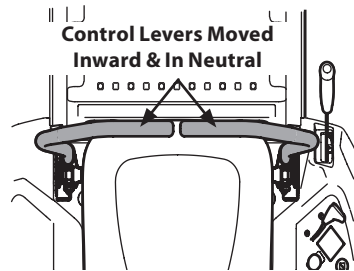

Figure 21
2. Move the RH and LH lapbar drive control levers inward in the neutral position which also disengages the parking brake. See Figure 21.